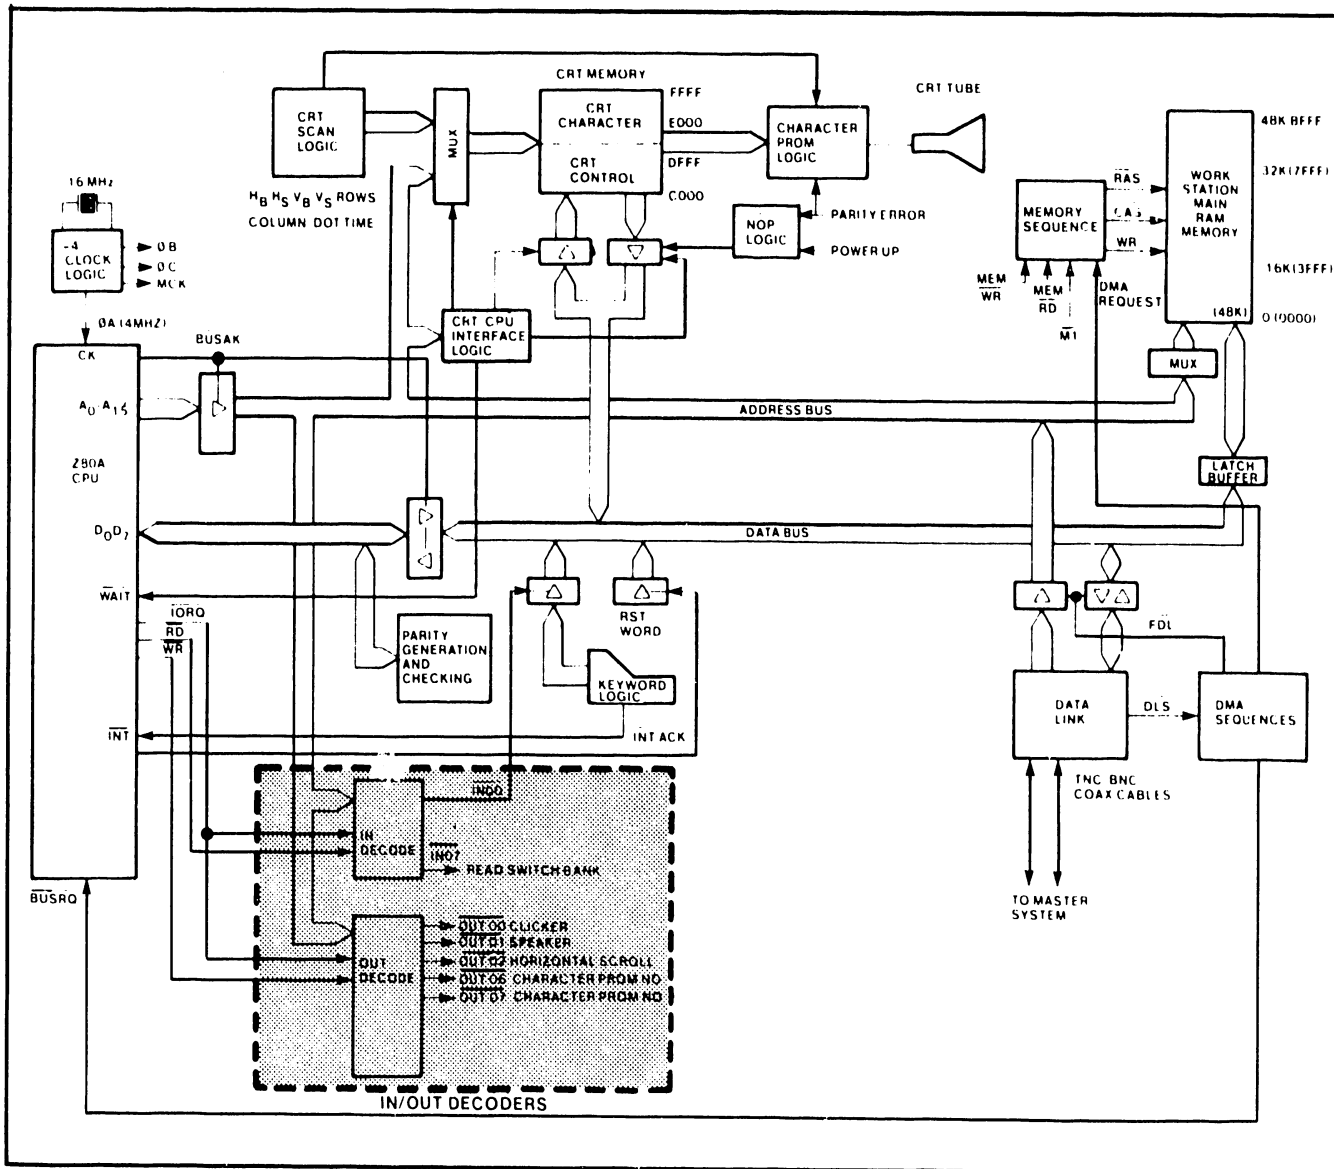

Figure 2-5. I/O Decoding
2.3.1.8 IN-OUT Decoders (Figure 2-5)